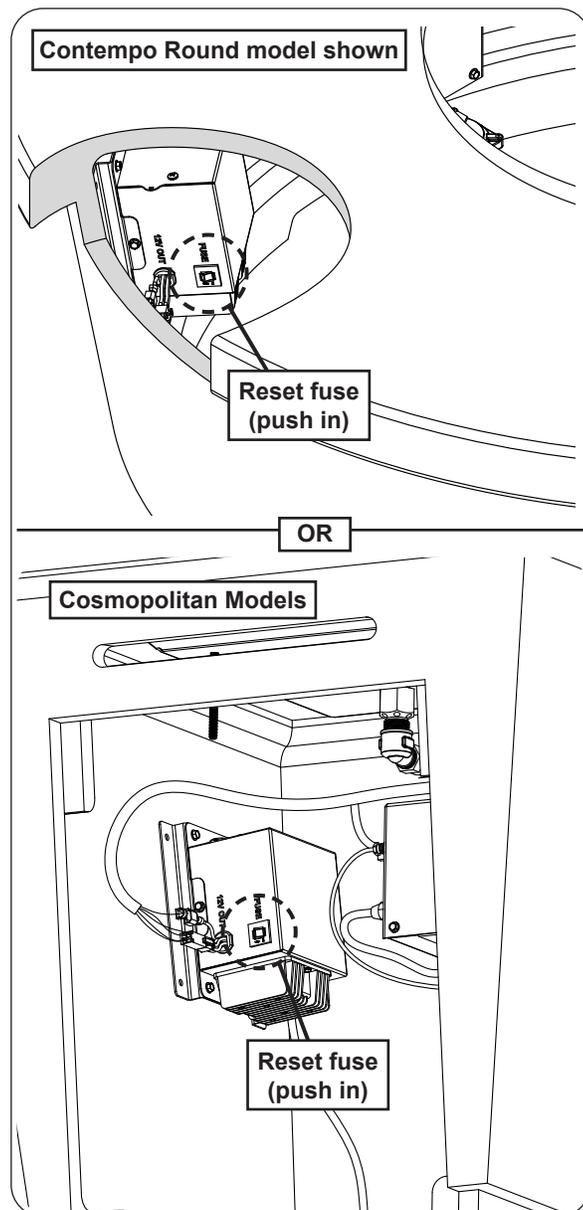

Fig. 54-2 Reset fuse
2. Gain access to the valve box and reset the fuse by pushing it in (see Fig. 54-2).